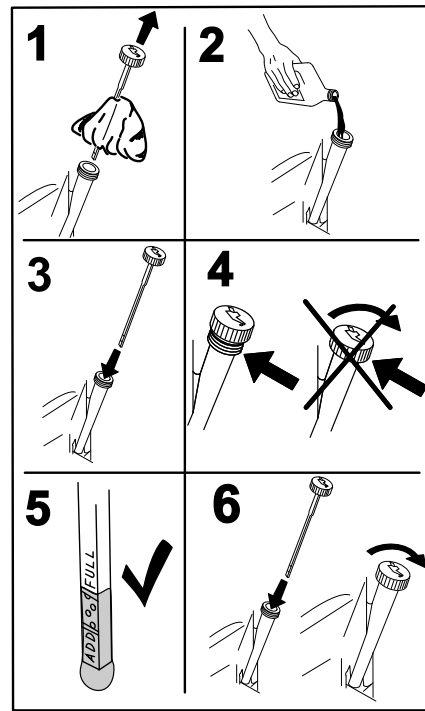

Figure 46
5. Slowly pour approximately 80% of the specified oil into the filler tube, and slowly add the additional oil to bring it to the **Full** mark (Figure 46).